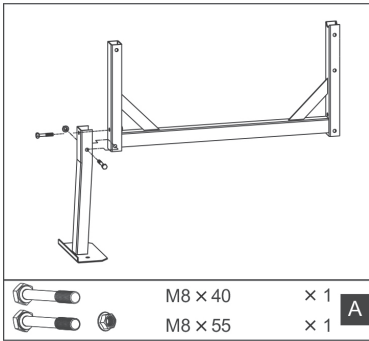

Fig.4
1. Assemble the stand to the drum frame. Use the accessories marked (A), Fig.4.